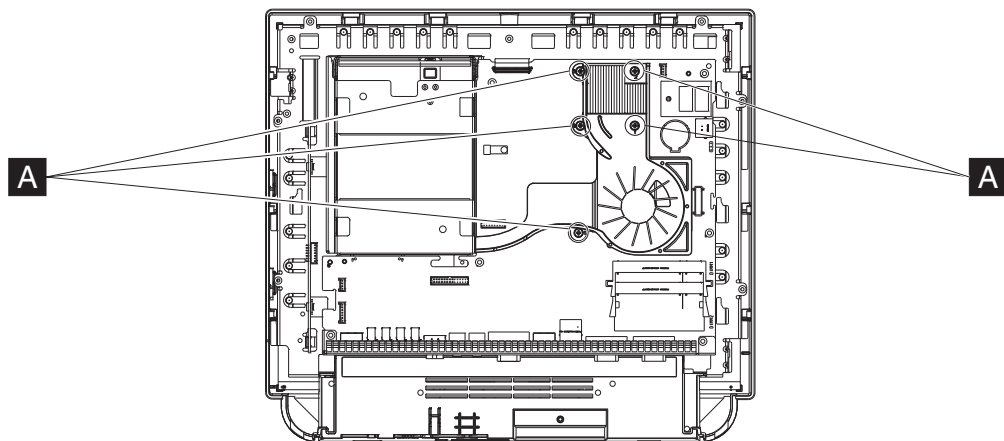

Figure 22. Removing the fan sink assembly
3. See Figure 22 and loosen the 5 screws (**A**) retaining the heat sink and fan assembly in the order that they are numbered (1 through 5).
2. Tighten the five retainer screws **one turn in the numerical order that is shown beside of each screw**. See Figure 22.